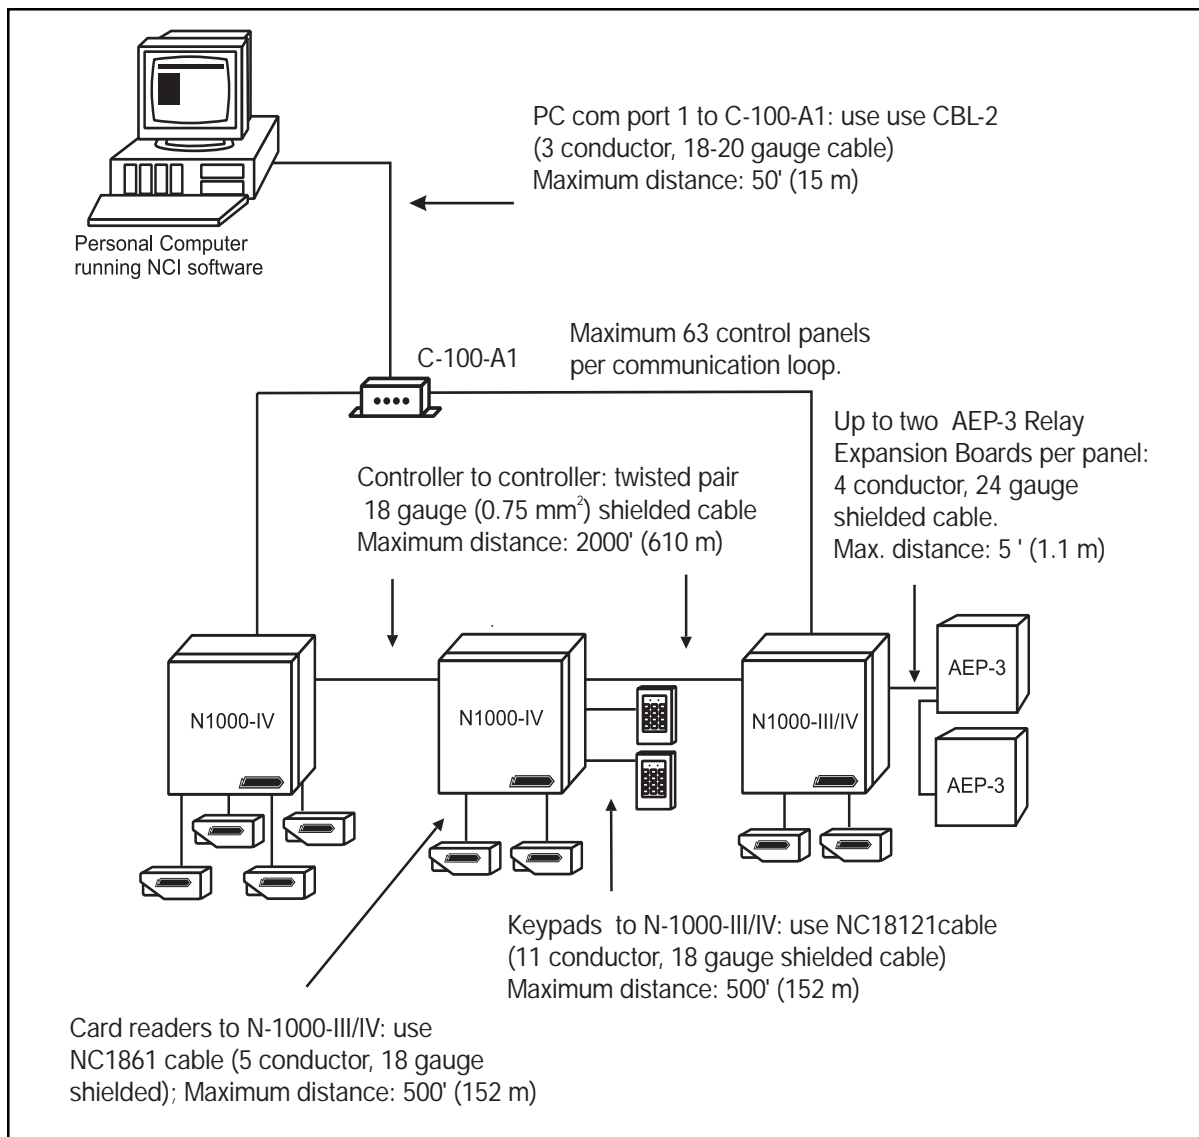

Figure 6-6. **Typical 20 mA Communication Loop.** See figure 6-10 for AEP-3 connections.
Cable CBL-2 (three conductor, 18-20 gauge) is recommended for use between the PC and the C-100-A1 Converter. This enables the C-100-A1 to be located up to 50 feet (15 m) away from the CPU (See figure 6-6).
- Last panel in communication loop to C-100-A1. (See figure 6-6.)